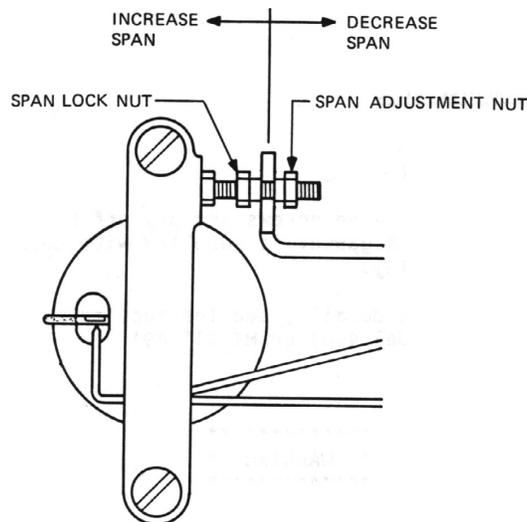

Figure 9.
5. See Figure 9. Loosen the 5/16-inch span locknut and turn the 5/16-inch span adjustment nut a proportional amount (noted in Step 3) based on the following: 1/6 of a turn (point to point on the hexagonal nut) corrects the error by 0.5%.